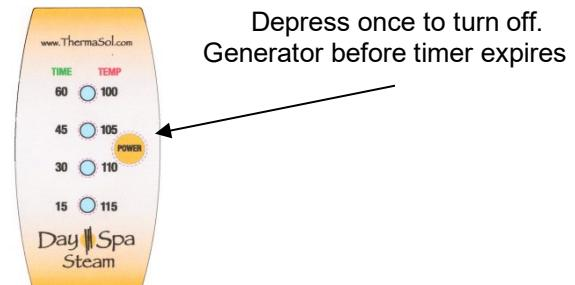

Figure 10
**4. Manual Power Off.** To manually power off the generator before the selected time has expired, press the “Control Button” once. The LED’s will go off and the steam will turn off. (**Figure 10**)